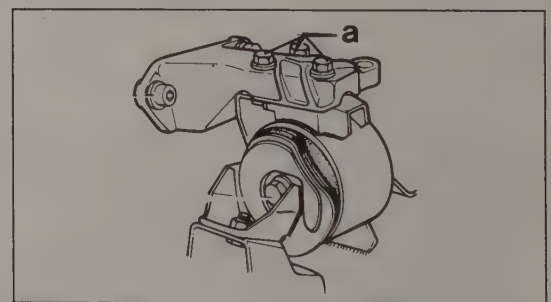

Fig. 6-15. Right rear engine mounting bolts a.
9. Remove the three bolts from the right rear engine mount as shown in Fig. 6-15.